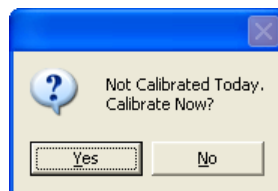
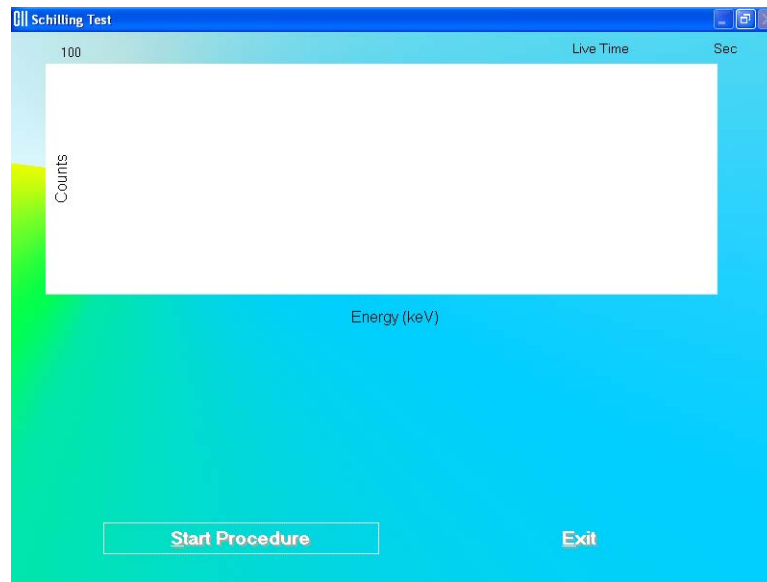

Figure 10-11
Figure 10-12
2. To begin the measurements, click the **Count Selected Patient** button or press *Alt+C*. The screen appears as shown in Figure 10-12.
Note: If calibration has not been performed, you will be prompted with the screen as shown in Figure 10-11. After the calibration is complete, the program will return to the Schilling Test measurement screen shown in Figure 10-12.
To begin counting, verify that there are no radioactive sources nearby and click the button. To abort the measurement, click the button and the screen will return to that shown Figure 10-12. To exit to Figure 10-2 Schilling Test Main Screen, click the button or press *Alt+E*. To begin the test again, click the button or press *Alt+S*.
To abort the procedure, click the button or press the Y key. Collected data will be discarded and the screen will return to the Schilling Test Measurement Screen (Figure 10-12). To resume the test, click the button or press the N key.